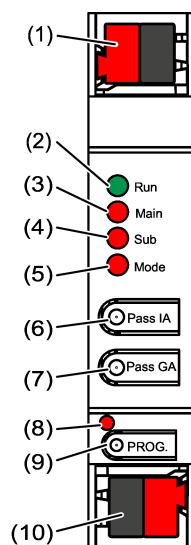

Figure 1: Front view
The status LED **Run** displays the state of the filter functions, (see figure 1).
- Connect bus lines to KNX device connection terminals (see figure 1) observing the correct polarity.
- Connect the higher-order line to the lower device connection terminal (10). Power is supplied to the device via this terminal.
- Connect the subordinate line to the upper device connection terminal (1).